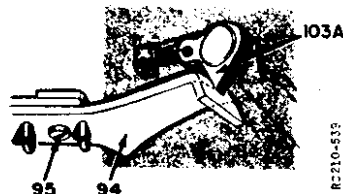

Figure 7. Positioning Trip Serrations.
The ideal adjustment of screw (95) for best operation is when the point of the pawl (103A) is horizontally even or level with the smooth side of the trip serrations (94). NOTE: The point of the pawl will be approximately 3/32 of an inch from the bottom edge of the lip on the trip serrations. See Figure 7.
- Adjust trip adjusting screw (95) until the point of the pawl (103A) is horizontally even or level with the smooth side of the trip serrations (94), or until the point of the pawl is 3/32 of an inch from the bottom edge of the lip on the trip serrations. See Figure 7.